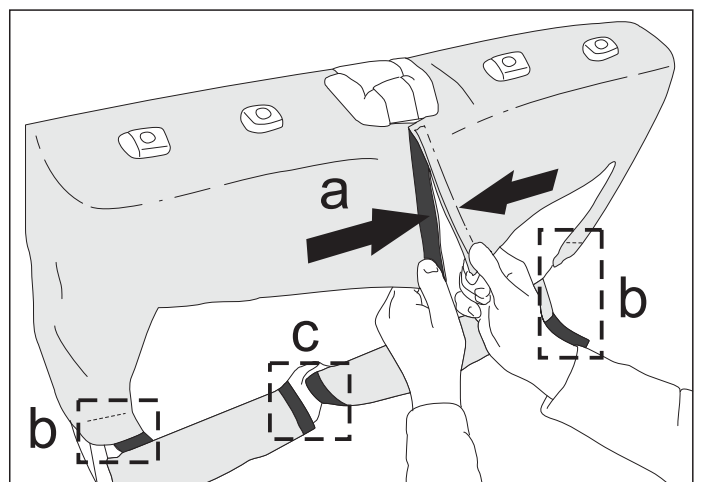

Fig. 6
6. At the top of the backrest, secure top hook and loop tapes (a). Also, ensure the seat belt mechanism and the seat release latch is clear of the seat cover. Also secure the hook and loop tapes on the bottom corners (b) and bottom middle (c). (Fig. 6)